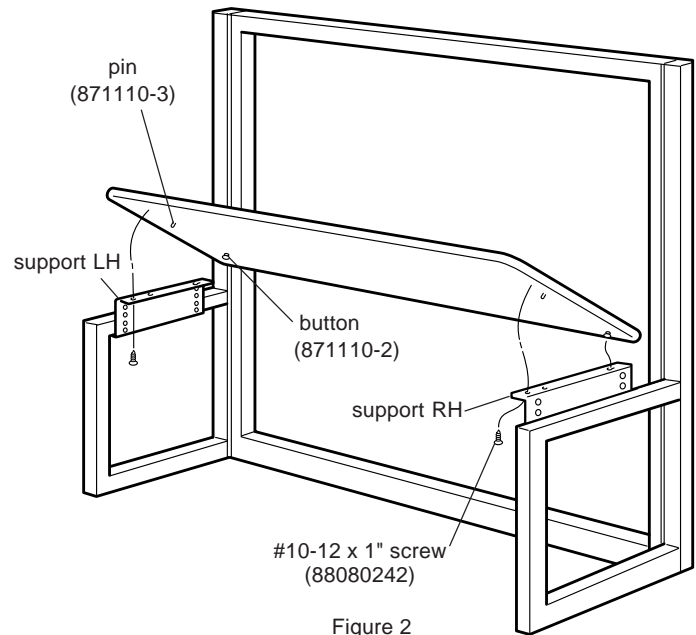

Figure 2
5. Slightly loosen buttons at rear of surface. Place button into large end of teardrop slot on support. Slide top back to engage. Drop surface pins into front holes of supports. Securely tighten buttons. Install #10-12 x 1" screws provided into underside of supports and surface to anchor top. (Figure 2)